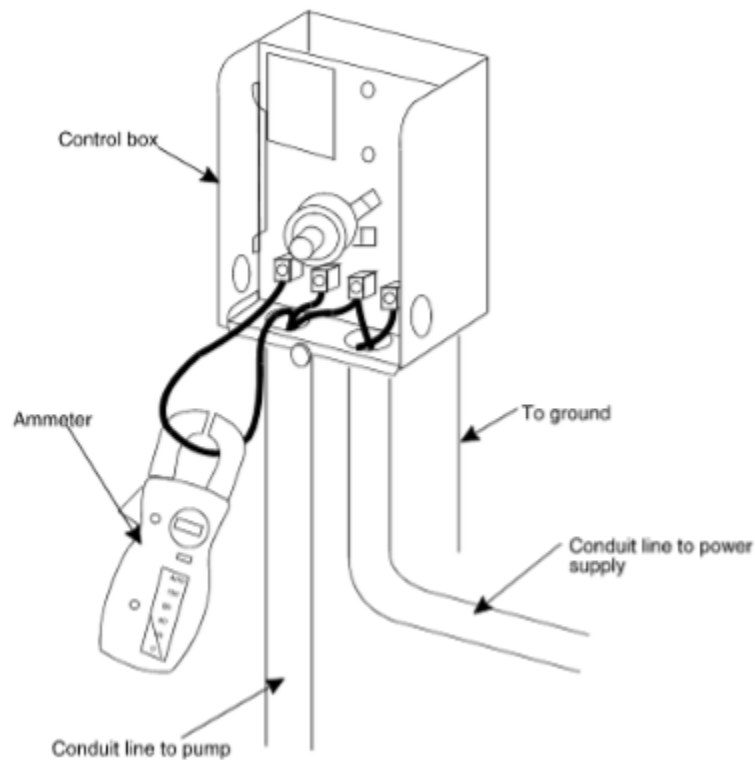

Figure 69. Ammeter test
When the pump is running, is the motor drawing enough amperage to indicate it is doing some work, or is it drawing maximum amperage, indicating maximum working conditions? A bound pump causes locked rotor amps and overloading tripping. Pump running at shut-off pressure, worn pump, or stripped drive shaft splines may cause low amps. Use a clamp-on style ammeter to measure current on all motor leads (Figure 69).
- Connect one meter lead to any one of the motor leads and the other lead to the ground wire, metal drop pipe, or metal well casing (Figure 69). Repeat and records readings for each motor lead.